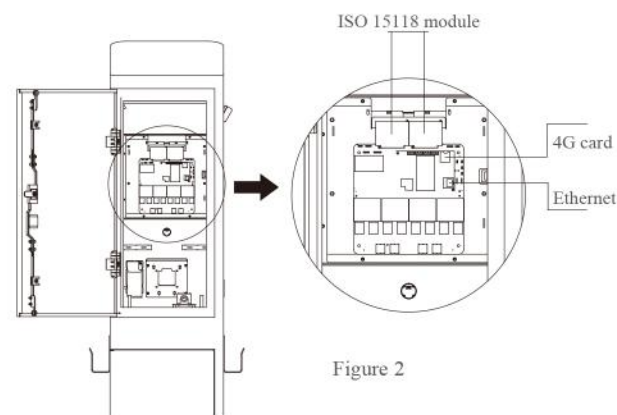

Figure 2
* (Optional) Use Ethernet for Communication: Pass the Ethernet cable through the hole along with hardwire cable, connect Ethernet cable to the port. (Figure 2)
* (Optional) Use 4G for Communication: Insert Micro SIM card in the slot to access 4G net. (Figure 2)